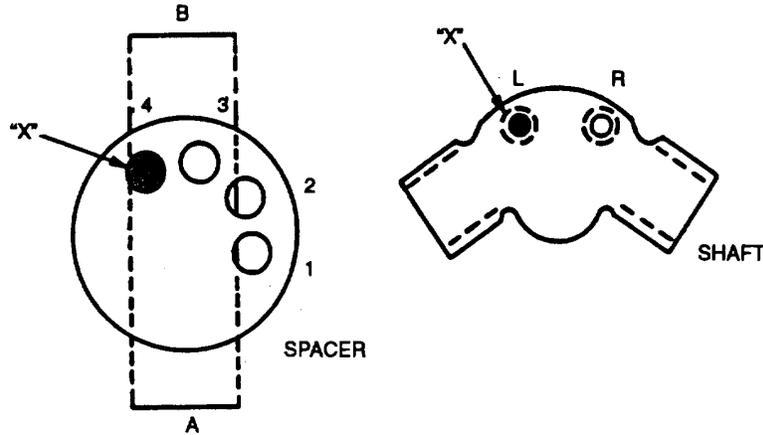

FIGURE 3-82. Alignment of Spacer
**FIGURE 3-82 indicates alignment hole for spacer (37) for this application.**
- (2) Position spacer (37) on shaft assembly (18) and secure with screw (36) in hole shown on FIGURE 3-82. Install adjusting arm (35), lever (34), spring (33), and retainer (32) on shaft assembly (18) and secure with screw (31).